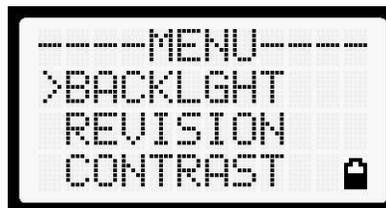

Figure 9-9: Menu Display
2. Upon entering the menu selection mode, menu options will appear in the display (see Figure 9-9).